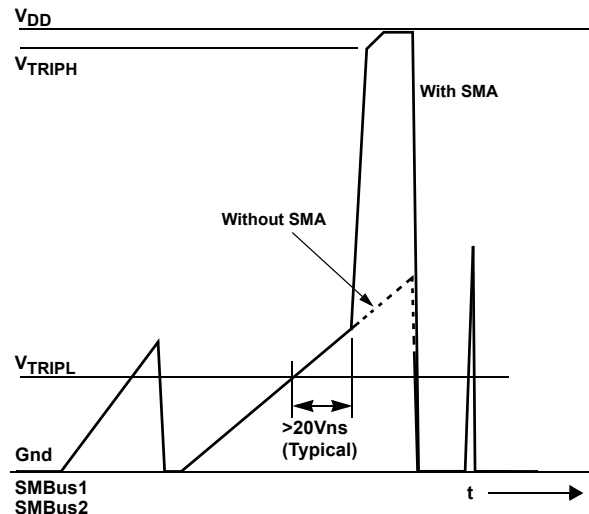

FIGURE 10. NOISE SUPPRESSION. BOOST CURRENT APPLIED WHEN INPUT SIGNAL EXCEEDS 20Vns (TYPICAL)
5. Measured as area under triangular waveform above  $V_{TRIPL}$ , with time as base and  $V_{IN}$  as height (see Figure 10 on page 7).